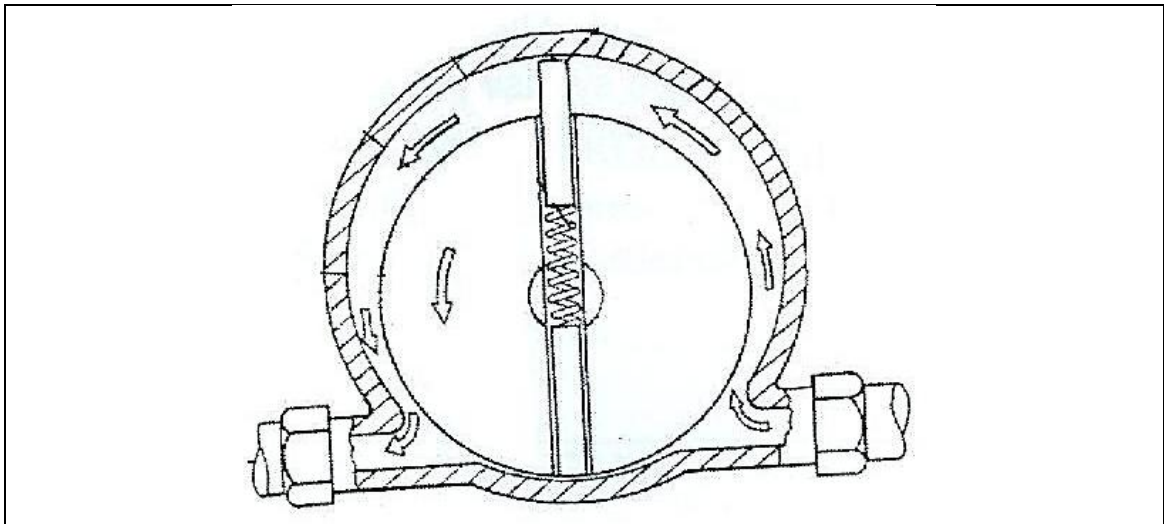

FIGURE 1.18
1.18 Which of the following descriptions represents the type of pump's **operating principle** as shown in FIGURE 1.18?